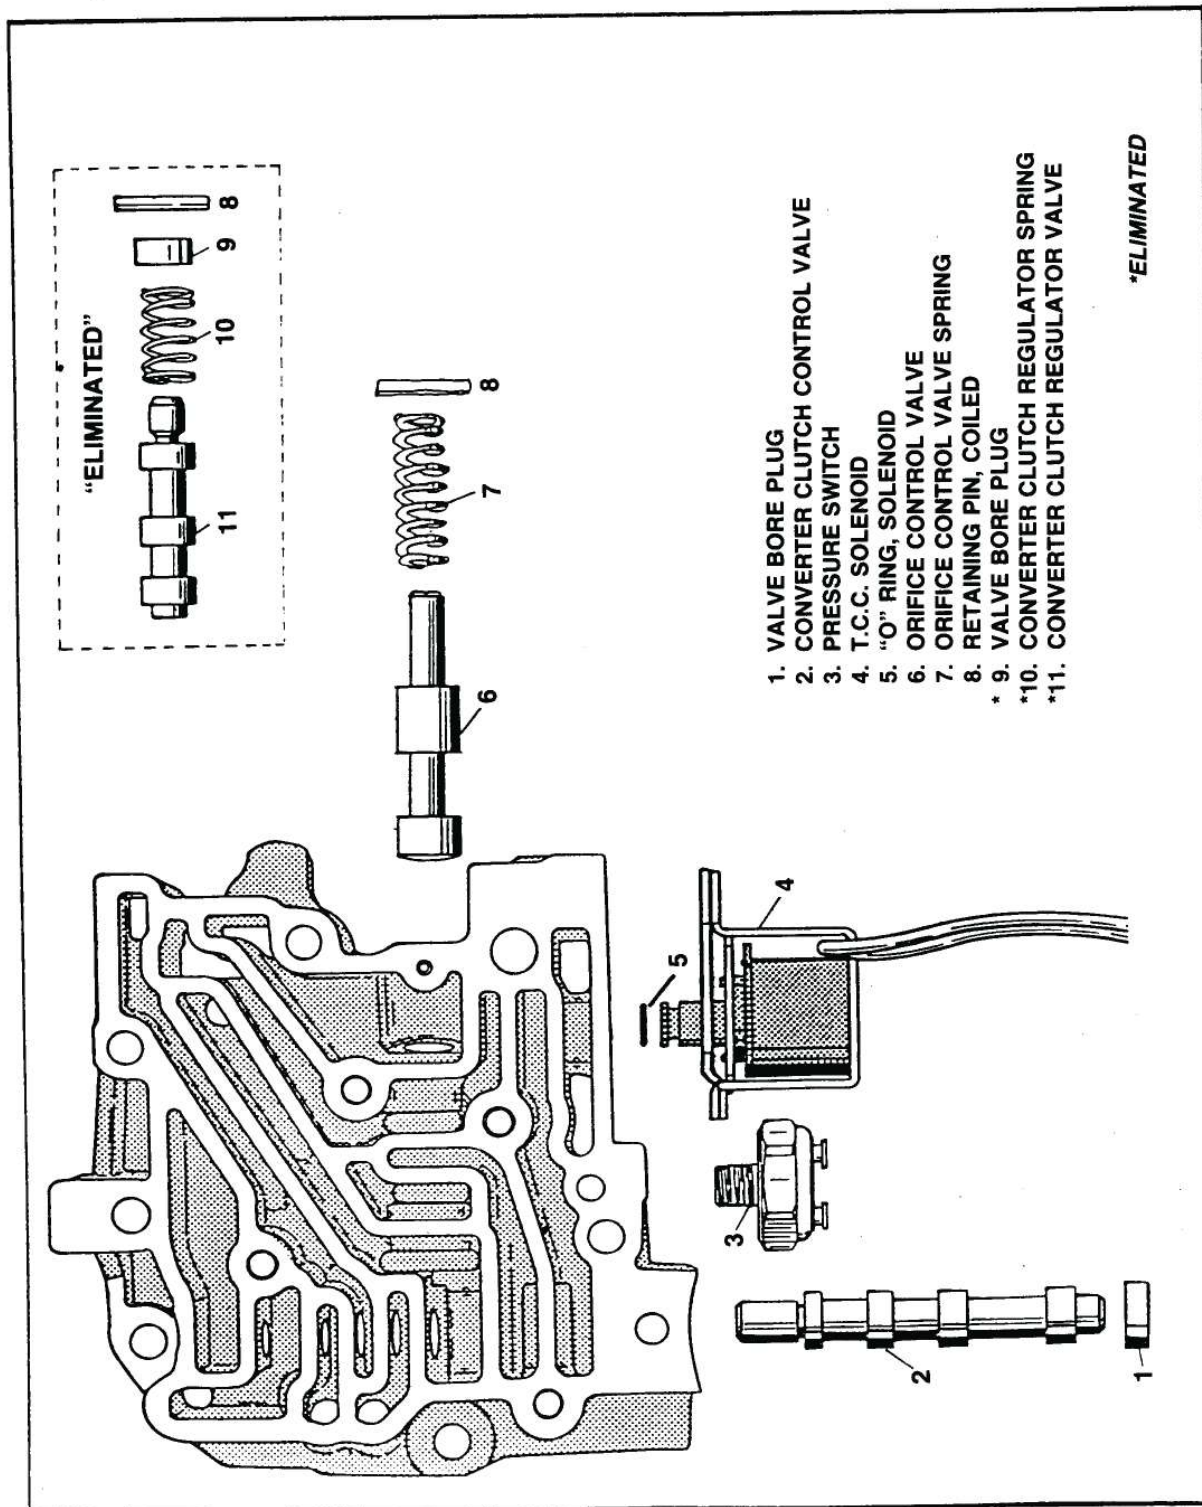

Figure 64
(See Figure 64)
1. Auxiliary Valve Body (See Figure 64).